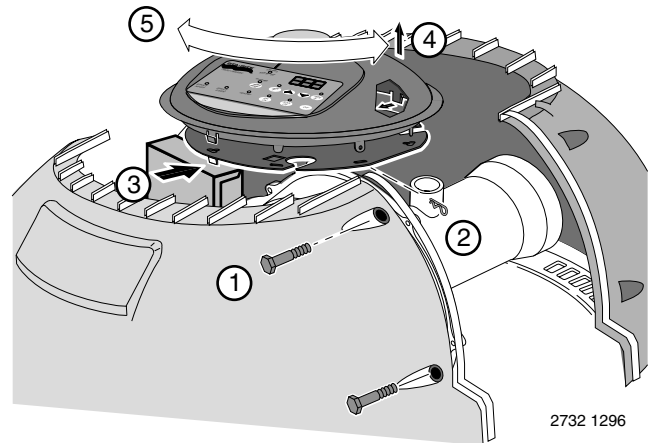

Figure 2-4: Indexing Control Panel
2. Pull the hairpin clips (see Figure 2-4).
3. Depress plastic clips on the control panel assembly and lift panel off of support plate. (see Figure 2-4).